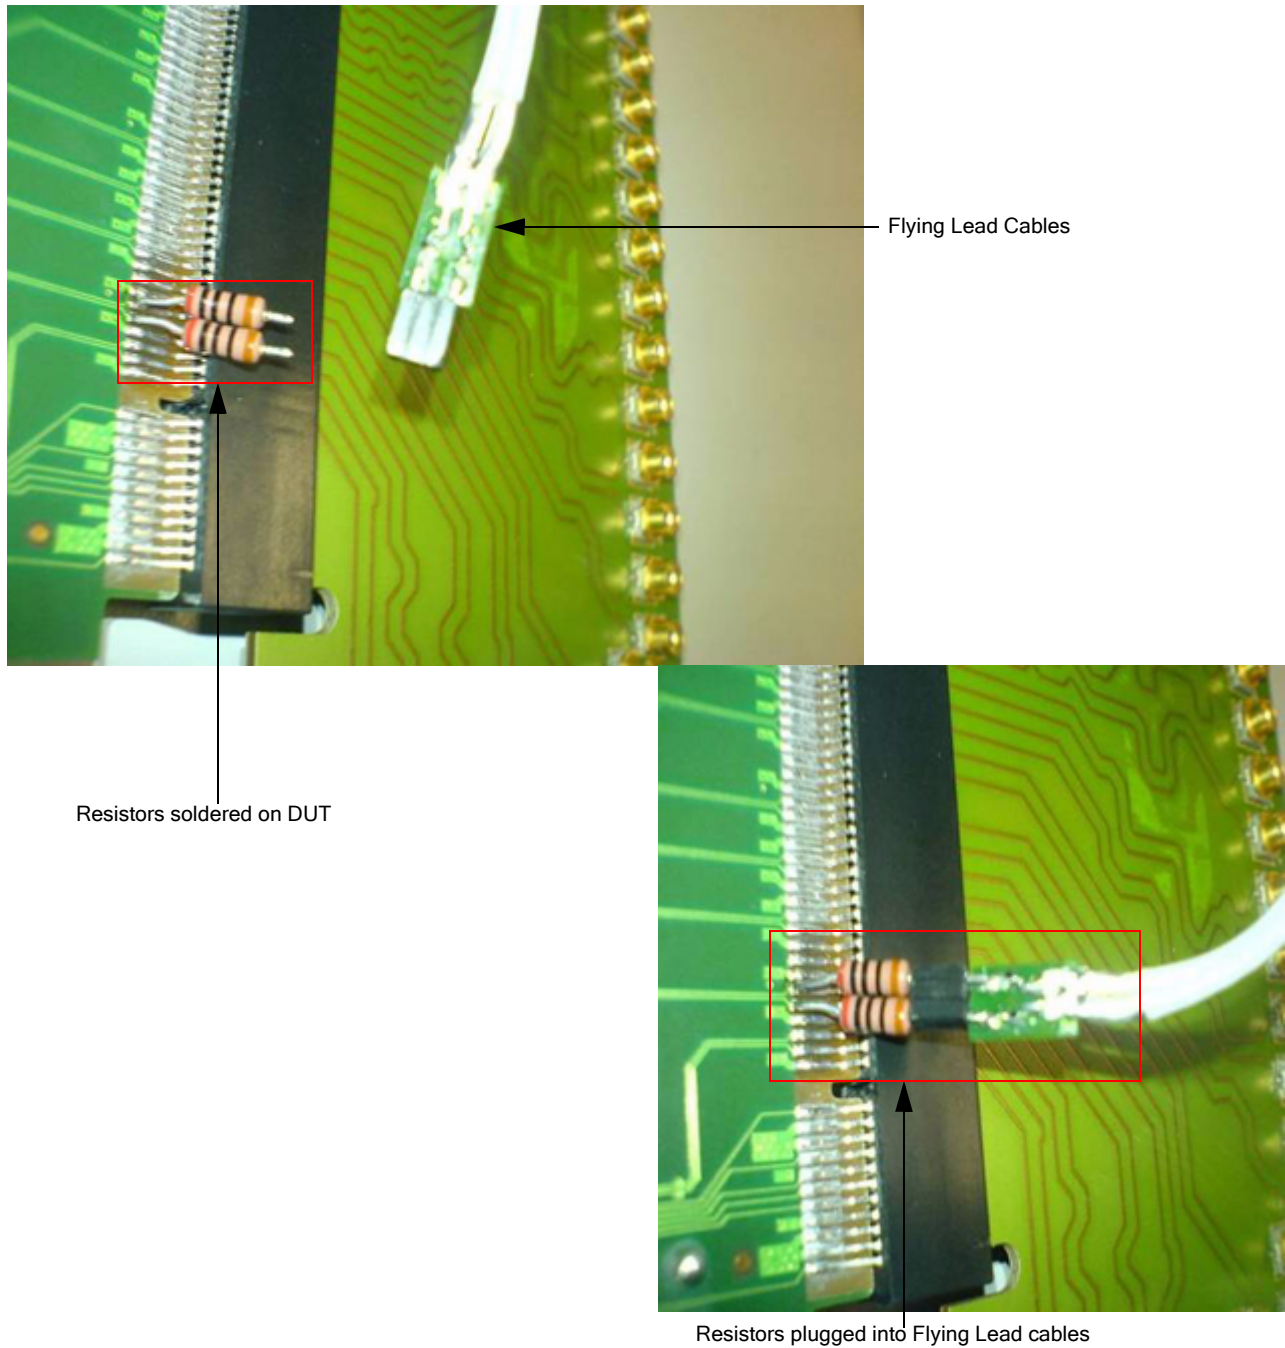

Figure 37 Flying Lead Cables using Resistors to connect with DUT
- **Flying Lead Cables:** This component connects to DUT. There are 16 flying lead cables that you can use to connect to DUT via *resistors* (Figure 37).
As shown in Figure 37, the one end of resistors is first soldered onto DUT, and the other end is plugged into the flying lead cables.